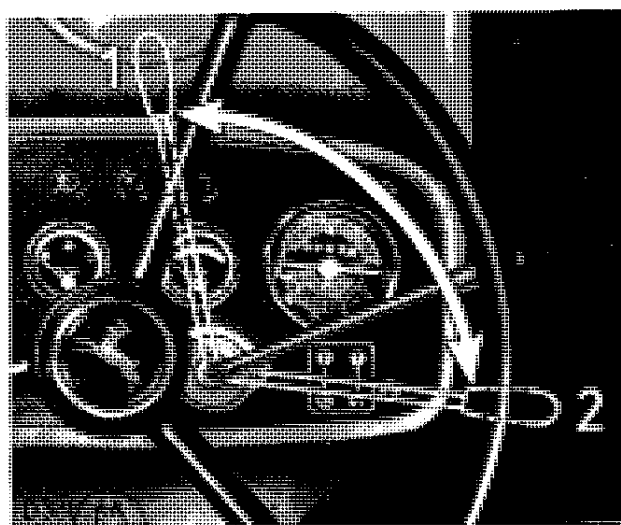

Fig. 10: Hand throttle 1. Low revs.
6. Now adjust the hand throttle (fig. 10) to full engine speed (position 2, fig. 10) for tractors with Roto Diesel Pumps; for tractors with Bosch or Roosa Master Pump set hand throttle to medium engine speed. If equipped with lockable stop knob (to prevent unauthorized starting of engine), turn knob 1/4 turn to left and push it in.
For work in the field the hand throttle (fig. 10) is set immediately to the desired setting as shown on the tractorometer (fig. 19). When the accelerator pedal is released the engine speed will return to the speed set by the hand throttle. For travelling on the road the hand throttle should be set to the idling position and the tractor is controlled by the foot pedal.